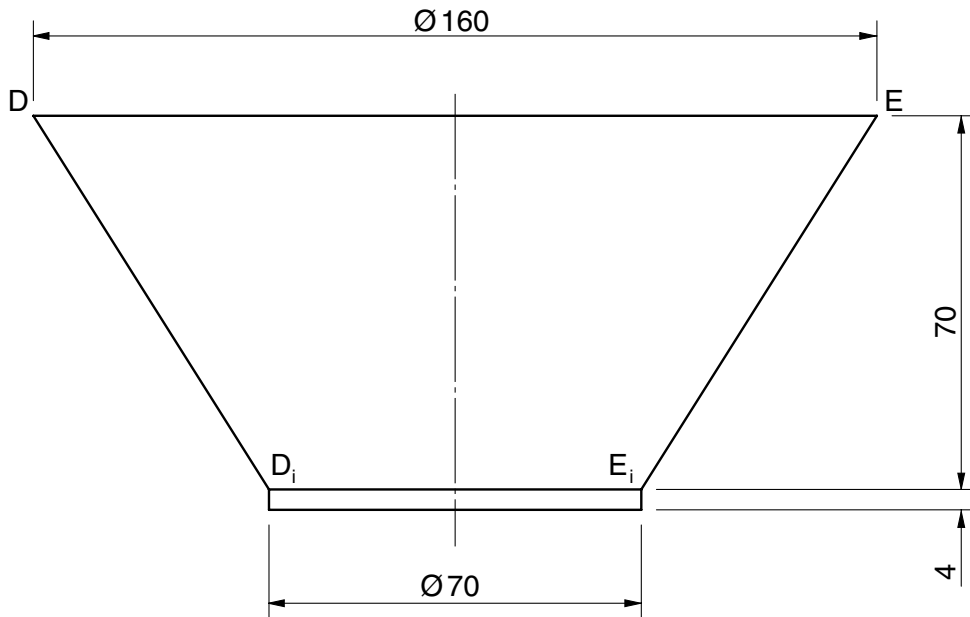

Fig. 4
- 5 Fig. 4 shows the outline of a circular clear glass bowl. The bowl is to be mounted on a turntable and two lines engraved on its outer surface using a scribe which is constrained to move vertically from D to D_i as the bowl makes one full revolution and then to repeat the sequence again from E to E_i .